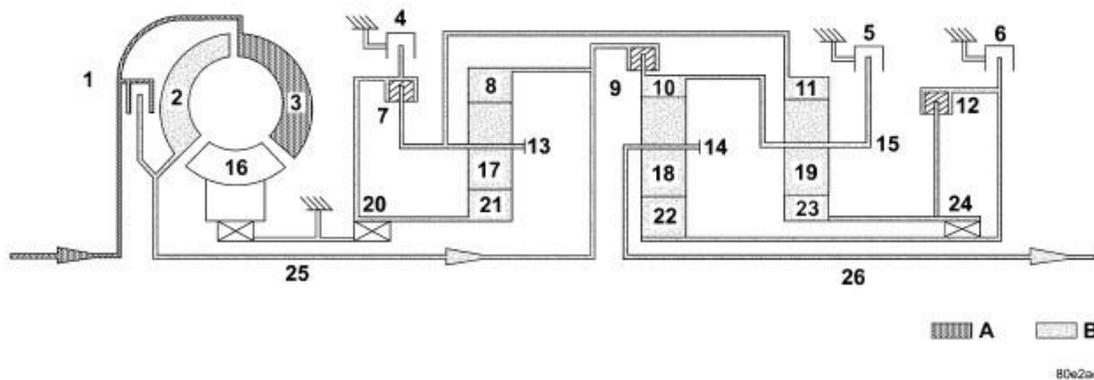
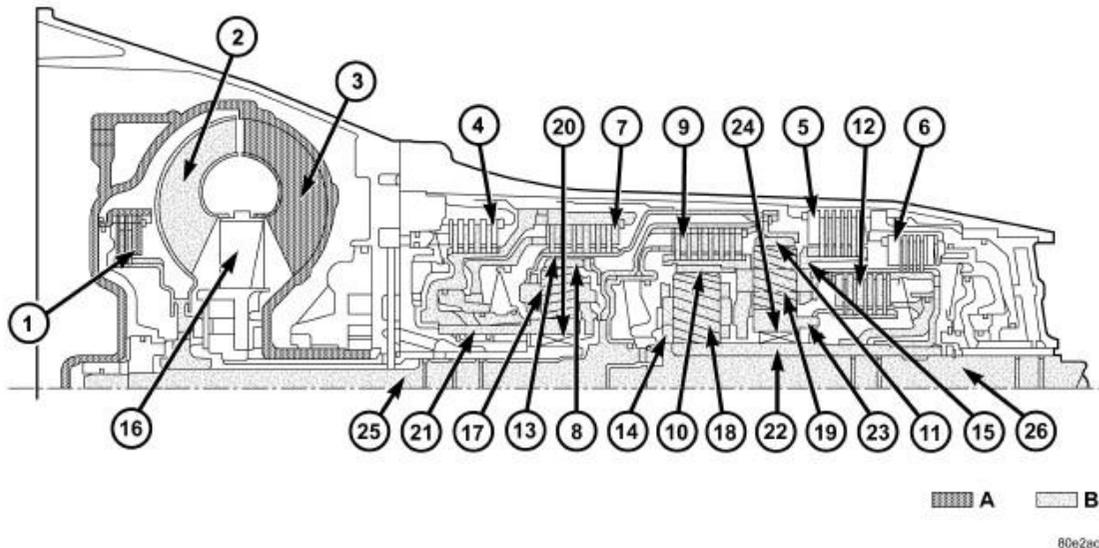

Fig. 8: Fourth Gear Powerflow (1 Of 2)
Fig. 9: Fourth Gear Powerflow (2 Of 2)
Speed and torque are not converted by the direct gear ratio of the 4th gear. Power is transferred from the input shaft (25) to the output shaft (26) via three locked planetary gearsets. Refer to **Fig. 9** and **Fig. 8**.